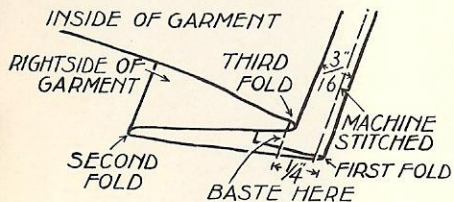

Fig. 6. Preparation of Material for Making Edge Stitched Invisible Hem
## No. 2. EDGE STITCHED HEM (See Fig. 6)
- Now fold hem toward right side of garment, exposing about one-half of the stitched edge, as shown in Fig. 6.